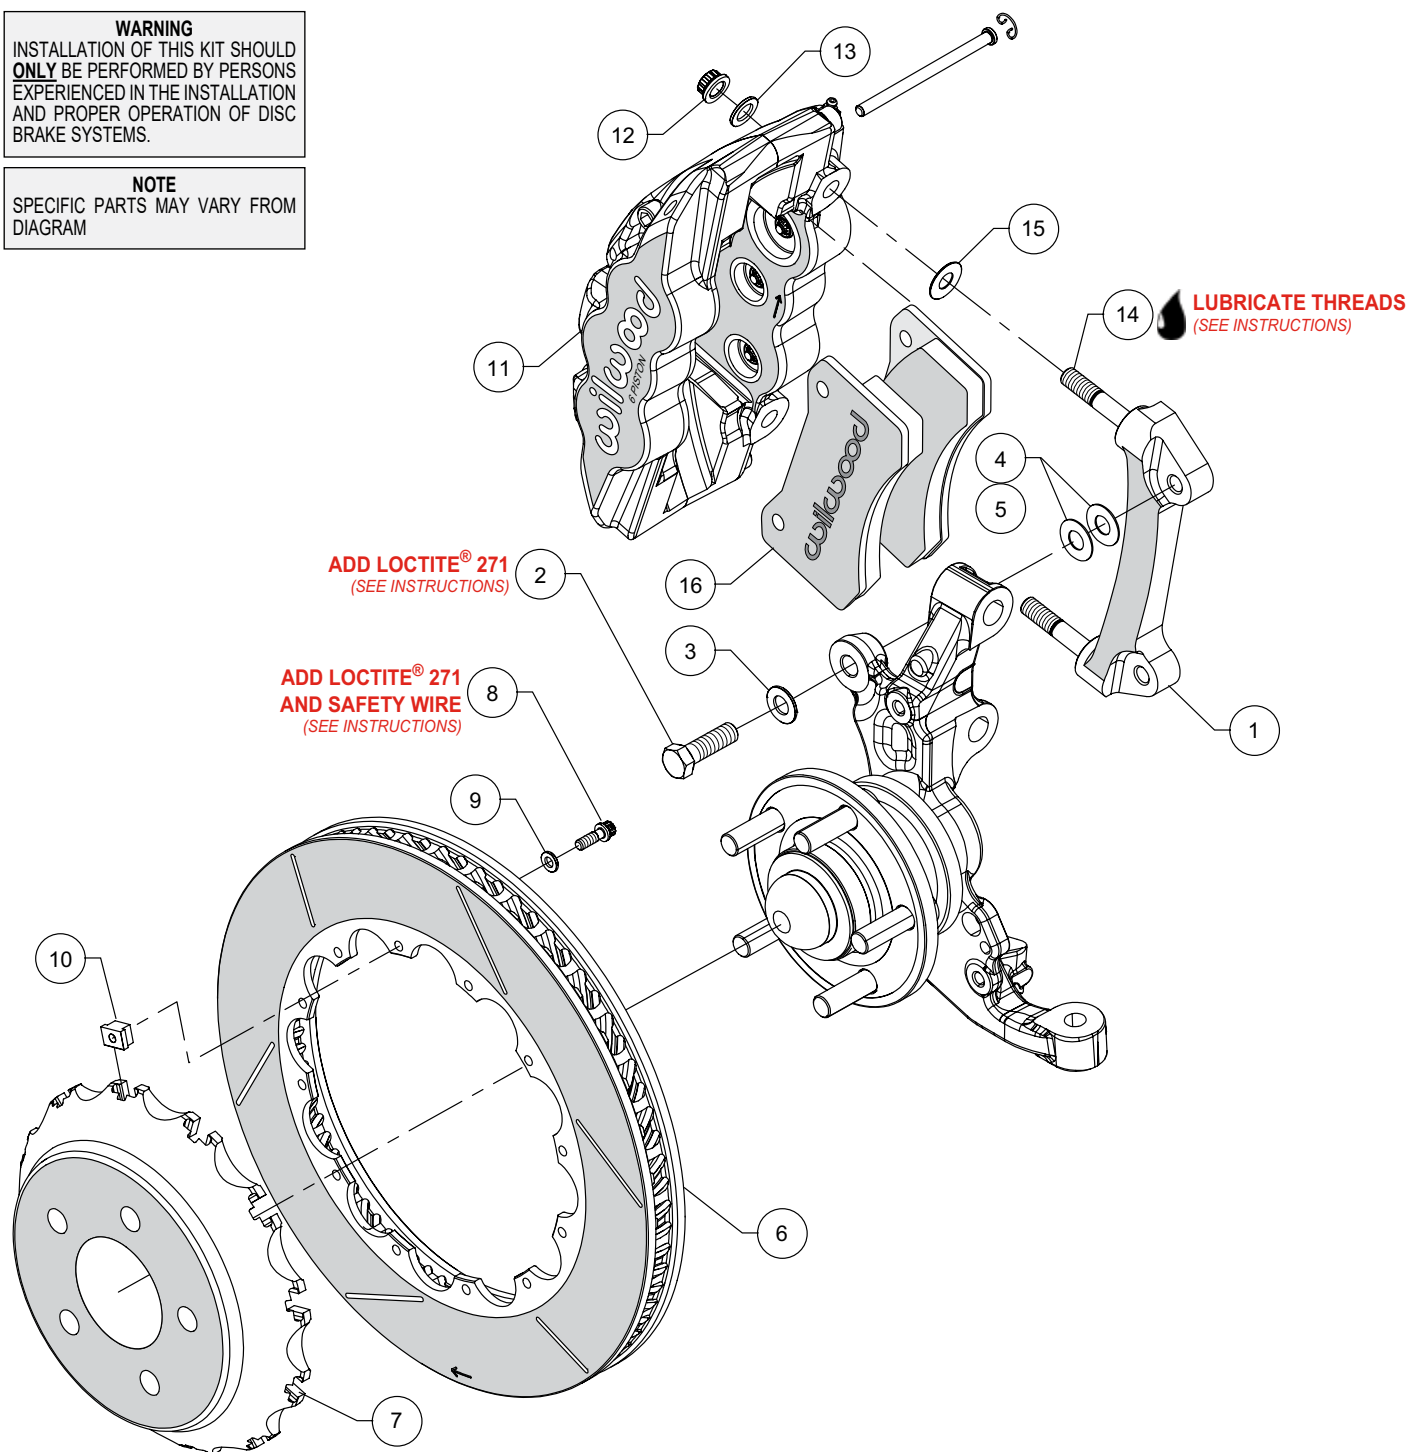
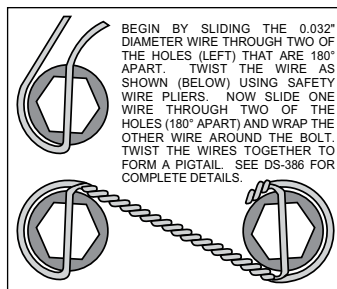

Figure 1. Typical Installation Configuration
Figure 3. Safety Wire Diagram
NOTE: Numbers in parenthesis refer to the parts list and Figure 1 on the preceding pages.
- The caliper mount bracket (1) should initially be installed with clean, dry threads on the mounting bolts. Orient the bracket, as shown in Figure 1 and Photo 1, and install using bolts (2) and washers (3). Initially place two .033" thick shims (4) on each bolt between the bracket and upright, Figure 1. Temporarily tighten the mounting bolts. **NOTE:** The bracket must fit squarely against the mount bosses on the upright. Inspect for interference from casting irregularities, machining ridges, burrs, etc. Later, after the caliper alignment has been checked, the mount bolts will be secured using red Loctite® 271.
- Orient the rotor (6) and the hat (7) as shown in Figure 1 and Photo 2. Attach rotor to hat using bolts (8), washers (9), and
t-nuts (10), Figure 1. Follow additional instructions included with the bolt kit. Using a criss-cross pattern, apply red *Loctite*® 271 to the threads, and torque to 120 in-lbs. Safety wire bolts using standard 0.032 inch diameter stainless steel safety wire as shown in Figure 3. Refer to Wilwood's data sheet DS-386 (available at www.wilwood.com/Pdf/DataSheets/ds386.pdf) for complete safety wire installation instructions.
- NOTE:** *This kit contains distinct right and left hand calipers that must be mounted in a specific direction, as described below.* Lubricate the caliper mounting studs (14) with lightweight oil. Initially place one .030" thick shim (15) on each stud between the caliper and the bracket, as shown in Figure 1 and Photo 4. Mount the caliper (11) onto the bracket (1) using lock nuts (12) and washers (13), Figure 1. Temporarily tighten the lock nuts. Ensure that the caliper is mounted so the largest pistons are at the rotor exit end of the caliper, in relation to the direction of the rotor. View the rotor through the top opening of the caliper. The rotor should be centered in the caliper, Photo 5. If not, adjust by adding or subtracting shims (4 and/or 5) between the bracket and the upright. Always use the same amount of shims on each of the two mounting bolts. Once the caliper alignment is correct, remove the bracket mounting bolts one at a time, apply red *Loctite*® 271 to the threads, and torque to 60 ft-lbs.
- Remove the two pad retaining pins from the caliper (11) by carefully popping out the pin retaining clips and sliding out the pins. Insert the brake pads (16) into the caliper from the bottom, Figure 1 and Photo 6. With the friction material facing the rotor, secure the brake pads in place with the pad retaining pins and clips, Photo 7. Reinstall the caliper onto the caliper mounting bracket and temporarily tighten the lock nuts. Check that the top of the brake pad is flush with the outside diameter of the rotor, Photo 8. If not, adjust by adding or subtracting shims (15) between the caliper and the bracket. After the caliper pad height is set, torque the caliper lock nuts (12) to 47 ft-lb.